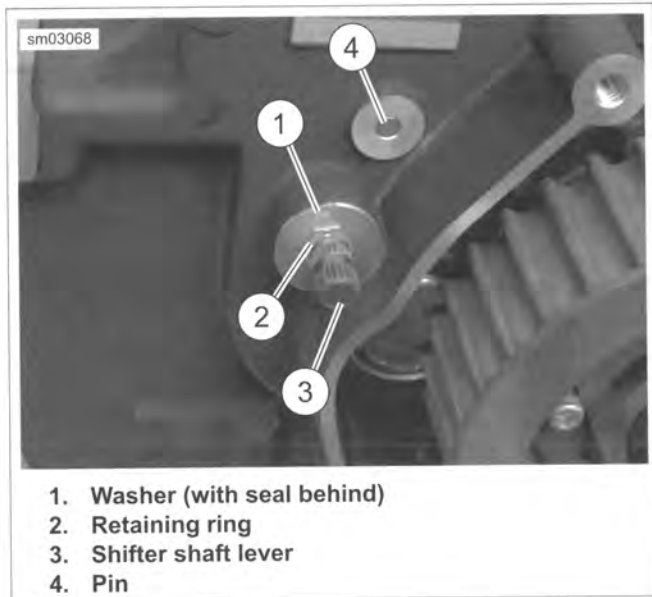

Figure 6-60. Shifter Shaft Lever, Exterior View
5. See Figure 6-60. Insert the assembly into the transmission case.
8. See Figure 6-60. Install washer (1) and a **new** retaining ring (2).